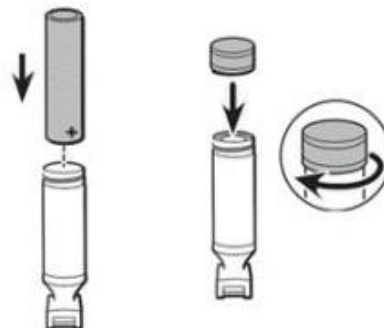

Figure 4
2. Reassemble the battery into handle per figure 4 with new or a battery in known good condition.
2. Reassemble the battery into handle per figure 4.